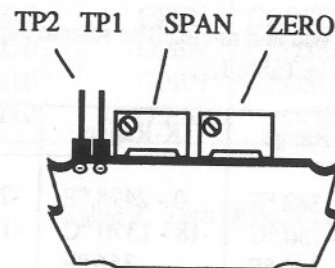

Figure 2. Location of the Test Points and Potentiometers
With a voltmeter connected between TP1 and TP2 of the linearization board, input the minimum input level to the input board and adjust the input board zero potentiometer for 0.000VDC. Figure 2 shows the location of TP1 and TP2.
2. With the input set to the minimum input level, measure the voltage between TP1 and pin 7 of connector J1, adjust the ZERO potentiometer on the linearization board for 0.000VDC. (Or, if the output board has a zero LED indicator, adjust the ZERO potentiometer until the LED is lit.) Figure 2 shows the test points and potentiometers on the linearization board.